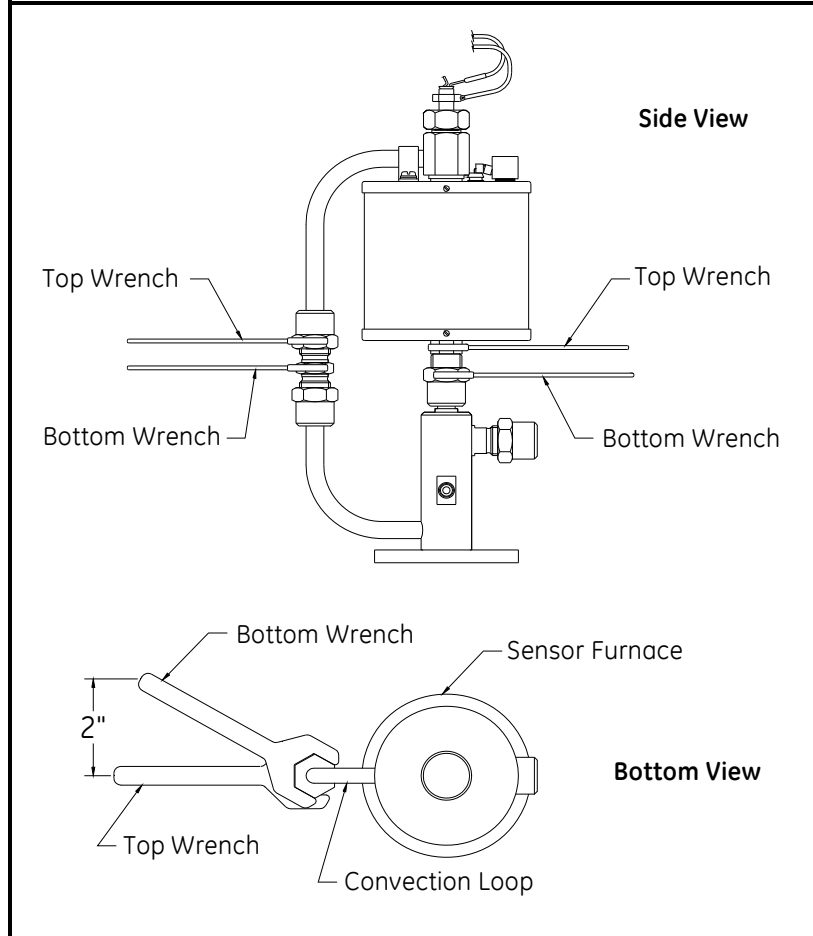

Figure 38: Wrench Positions
Note: The wrenches should be parallel to each other, but the bottom wrench should be positioned with its end rotated about 2 in. in a counterclockwise direction from the upper wrench. Refer to Figure 38 for a view of the wrenches from both the side and the bottom of the manifold assembly.
7. Repeat steps 5 and 6 to loosen the upper nut in the center of the convection loop (see Figure 38).
5. Finger tighten the nut on top of the manifold to the fitting beneath the sensor furnace. Also, finger tighten the nut on the upper section of the convection loop to the fitting on the lower section of the convection loop (see Figure 38 on page 87).
6. Place a wrench on the flat surface of the piping at the connection just below the sensor furnace (see Figure 38 on page 87).